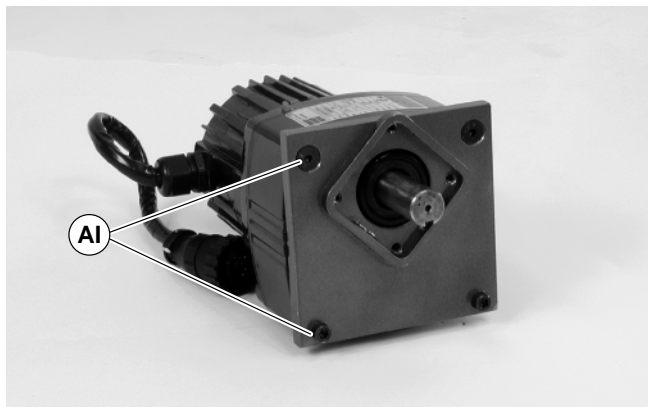

Figure 16
8. Remove four (4) adapter plate screws (AI of Figure 16). Remove adapter plate.